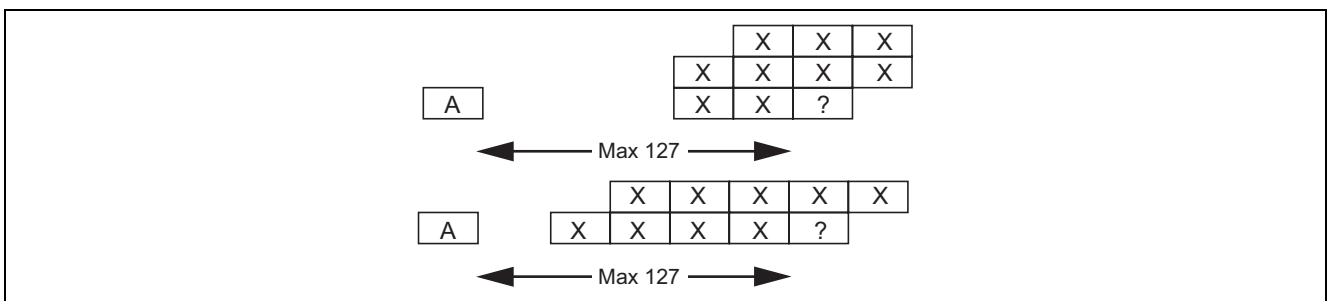

Figure 2 Adaptive Template (A)
- d0 to 4 (AT<0> to AT<4>): AT pixel position lower 5 bits. (see figure 2)
- d5 (TM): Template select (0: 3-line template, 1: 2-line template)